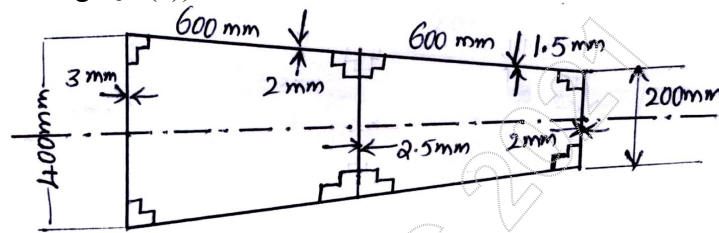

Fig.Q.9(c)
c. Calculate the boom areas for the following wing section which is in the form of two-cell box, the vertical spars are connected to the wing skin through angle sections all having a cross-sectional areas of 300mm^2 . Idealize the section into an arrangement of direct stress carrying booms and shear stress carried by panels, suitable for bending moments in a vertical plane. (Refer Fig.Q.9(c)) (14 Marks)